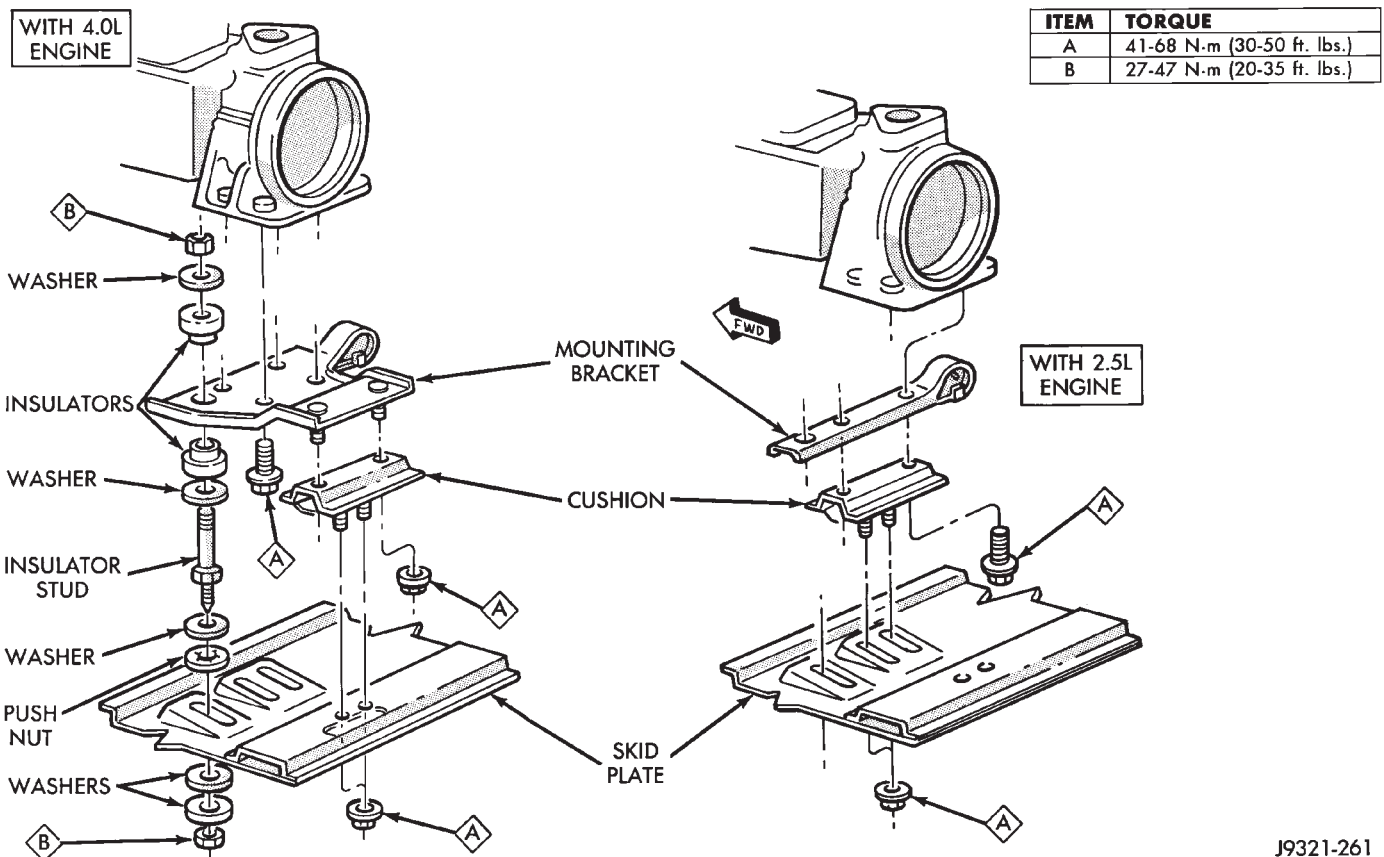

Fig. 5 Rear Mount Components (YJ Shown)
- (1) Shift transmission into first or third gear. Then raise vehicle on hoist.
- (2) Support engine with adjustable jack stand. Position wood block between jack and oil pan to avoid damaging pan.
- (3) Disconnect necessary exhaust system components.
- (4) Remove skid plate.
- (5) Disconnect rear cushion and bracket from transmission (Fig. 5).
- (6) Remove rear crossmember.